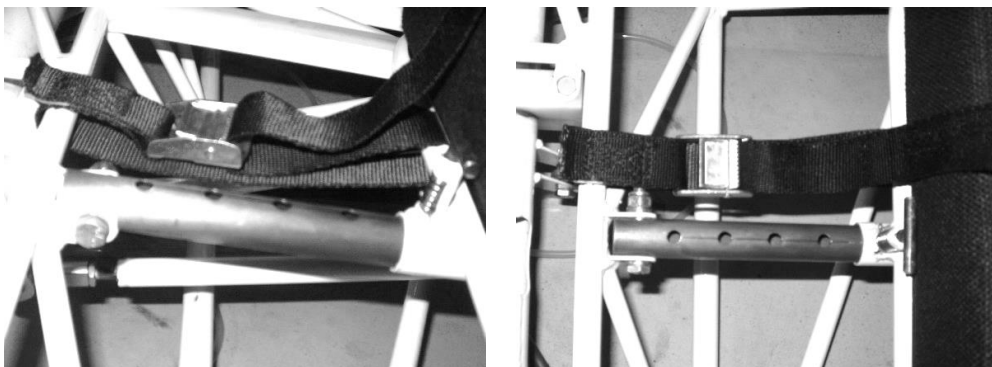

Figure 2: Secondary seat restraint strap location and orientation
- 1.3) Ensure that the secondary restraint system cam lock strap is in good condition (clean, with no fraying on the webbing and no corrosion on the camlock), correctly positioned, correctly orientated and fully functioning (Figure 2).